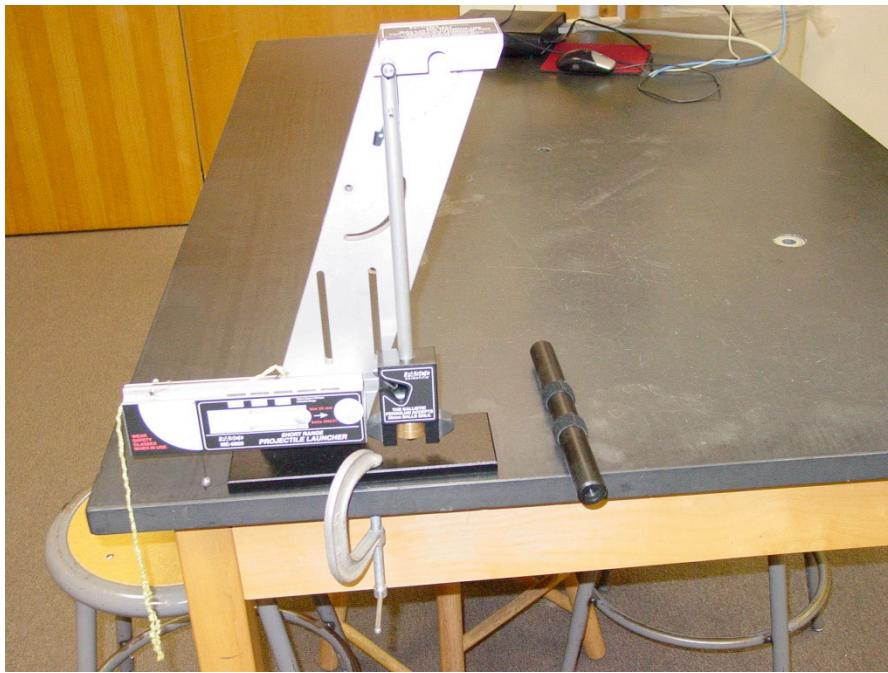

Figure 2 – Typical Experimental Setup of Ballistic Pendulum for Part I.
3. Clamp the pendulum assembly to the table as shown in Figure 2, and make sure the launcher is firmly attached to the pendulum base. (If the experiment can "vibrate", you may get inconsistent deflections.)